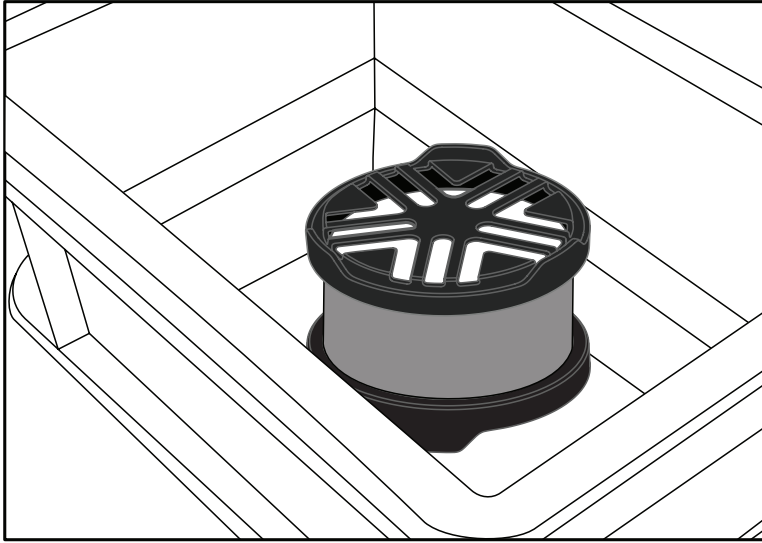

Figure 12 Saturate plate in tray
12. Place the sample ring in a tray (Figure 12).